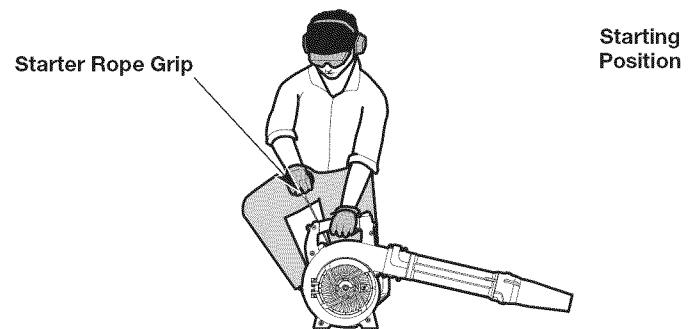

Fig. 7
**WARNING:** Avoid accidentally starting the unit. To avoid serious injury, the operator and the unit must be in a stable position when pulling the starter rope (Fig. 7).
6. **DO NOT** squeeze the throttle control. Crouch in the starting position (Fig. 7).